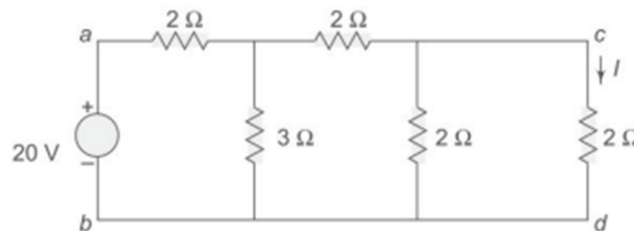

Figure 16
**Example** Verify the reciprocity theorem for the network shown in Fig. 16